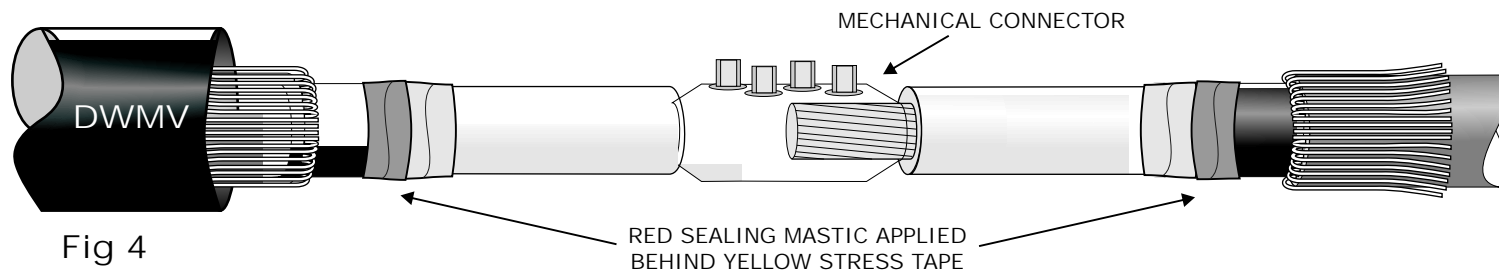

Fig 4
6. Apply a piece of the Red Sealing Mastic behind the Yellow Stress Tape which will help to improve the moisture seal (see Fig 4).